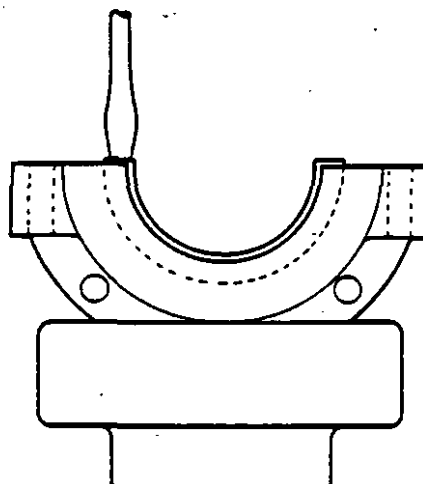

Figure 7. INSTALLING PACKING
5. Use a screwdriver blade that is not sharp to push the ends of the packing below the joint face of the retainer. See Figure 7.